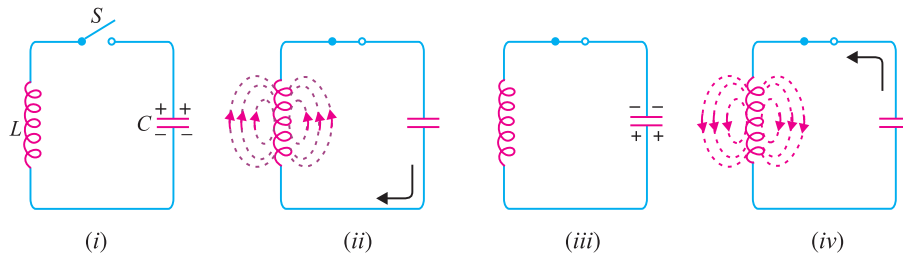

Fig. 14.2
A simple oscillatory circuit consists of a capacitor (C) and inductance coil (L) in parallel as shown in Fig. 14.2. This electrical system can produce electrical oscillations of frequency determined by the values of L and C . To understand how this comes about, suppose the capacitor is charged from a d.c. source with a polarity as shown in Fig. 14.2 (i).
(i) In the position shown in Fig. 14.2 (i), the upper plate of capacitor has deficit of electrons and the lower plate has excess of electrons. Therefore, there is a voltage across the capacitor and the capacitor has electrostatic energy.
(ii) When switch S is closed as shown in Fig. 14.2 (ii), the capacitor will discharge through inductance and the electron flow will be in the direction indicated by the arrow. This current flow sets up magnetic field around the coil. Due to the inductive effect, the current builds up slowly towards a maximum value. The circuit current will be maximum when the capacitor is fully discharged. At this instant, electrostatic energy is zero but because electron motion is greatest (*i.e.* maximum current), the magnetic field energy around the coil is maximum. This is shown in Fig. 14.2 (ii). Obviously, the electrostatic energy across the capacitor is completely converted into magnetic field energy around the coil.
(iii) Once the capacitor is discharged, the magnetic field will begin to collapse and produce a counter e.m.f. According to Lenz's law, the counter e.m.f. will keep the current flowing in the same direction. The result is that the capacitor is now charged with opposite polarity, making upper plate of capacitor negative and lower plate positive as shown in Fig. 14.2 (iii).
(iv) After the collapsing field has recharged the capacitor, the capacitor now begins to discharge; current now flowing in the opposite direction. Fig. 14.2 (iv) shows capacitor fully discharged and maximum current flowing.